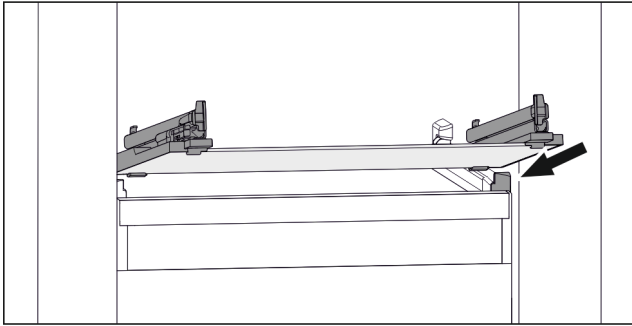

Fig. 85 Example illustration of glass shelf
- ▶ Position glass shelf at an angle behind the stoppers. (see *Fig. 85*)